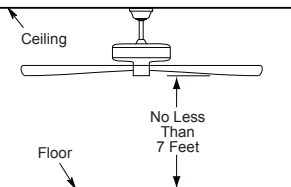

Figure 2
2. Remove the hairpin clip and clevis pin from the bottom of the downrod. Retain the pin and clip for reinstallation in Step 4. (Figure 2)
The fan must be hung with at least 7' of clearance from floor to ceiling fan. (Figure 2)